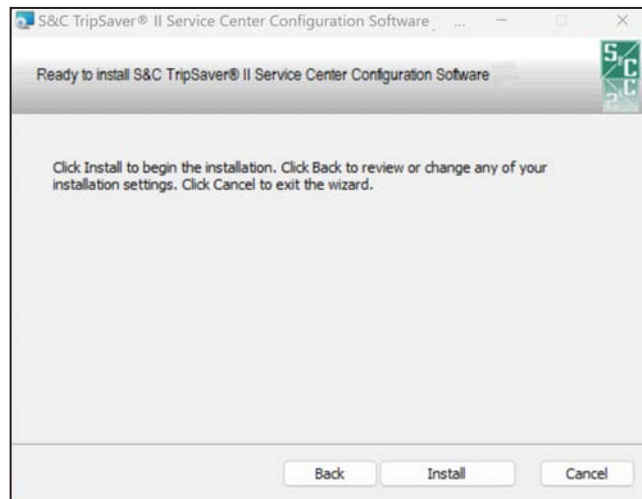

Figure 6. The Ready to Install dialog box.
STEP 5. When the installation folder has been selected, the Ready to Install dialog box opens. See Figure 6. Click on the **Install** button to begin the installation. Click on the **Back** button to review or change the settings, or click on the **Cancel** button to quit the installation process.